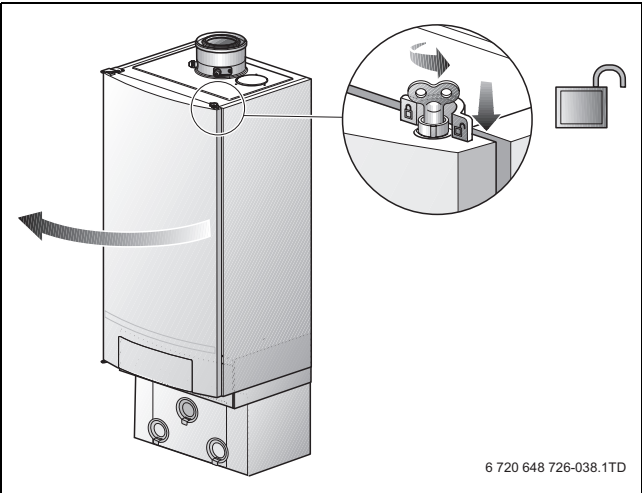

Fig. 38 Open the boiler door
- ▶ Turn the vent key through a quarter rotation to undo the boiler door lock (→ fig. 38, see detailed picture).
- ▶ Push the fastener down (→ fig. 38) and open the boiler door.